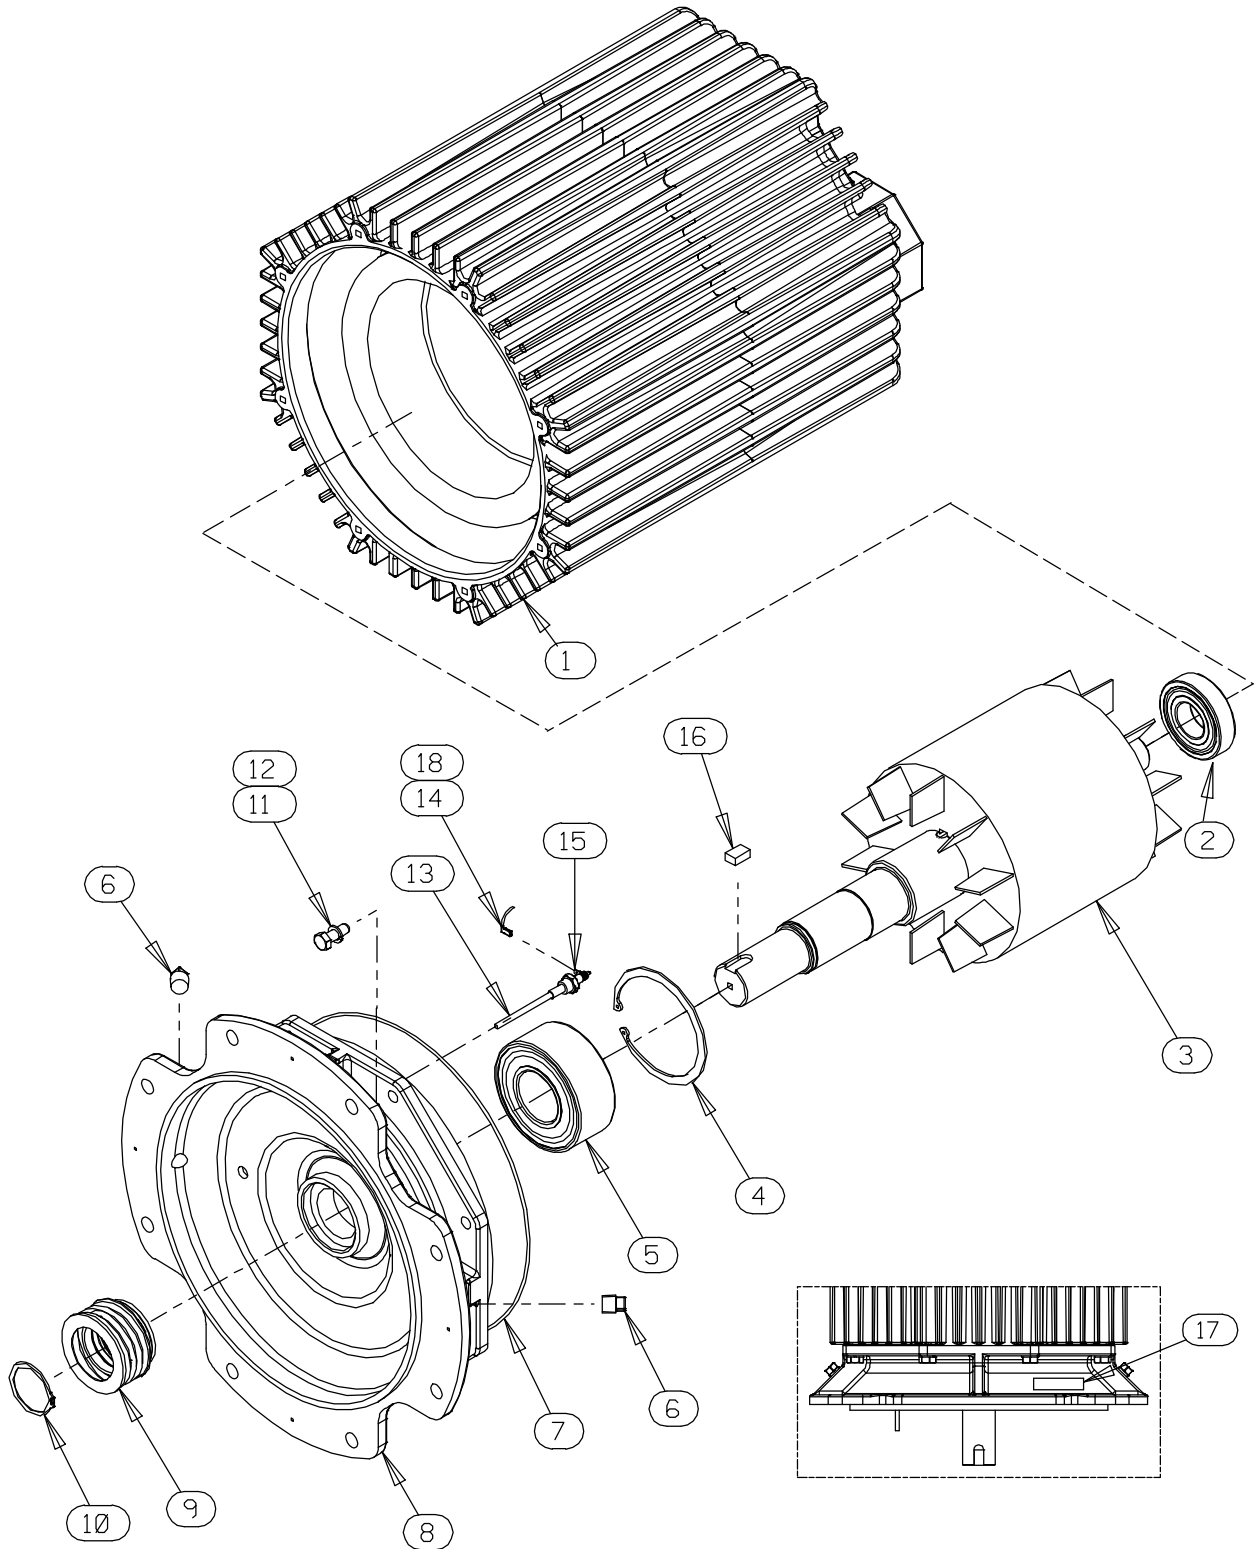

Figure E-2. Motor Assemblies
(Figure E-2)
To remove the impeller, use two thin-bladed screwdrivers positioned 180° apart to pry on the back of the impeller and “walk” the impeller off the shaft. Use increasingly larger screwdrivers (or wedges) as necessary. After the impeller comes free of the shaft, retain the impeller key (16, Figure E-2).
An alternate method of removing the stationary element is to remove the screws (11) securing the seal plate (17) to the motor assembly (20). Pry the assembled seal plate and stationary element off the shoulder of the intermediate (8, Figure E-2). Remove the O-ring (16) and press the stationary element and seat out of the seal plate from the back side.
(Figures E-2 and E-3)